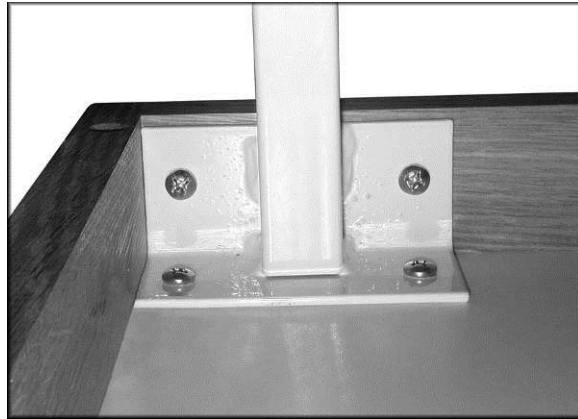

Figure 7
2. Position the leg brackets at one end of the table, as shown in Figure 7. Hold a leg firmly in place while driving the screws in using a phillips bit in a power drill.